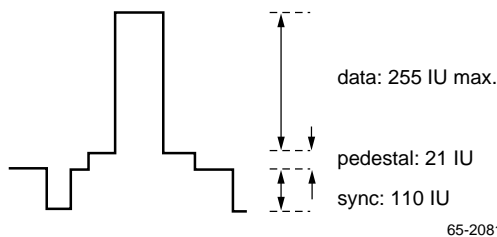
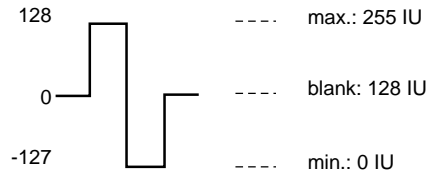

Figure 2. GBR/Y DAC Output Levels in Current Units
Figure 3. C_BC_R DAC Output Levels in Current Units
Nominal outputs (see Figure 2 and Figure 3) are expressed in Current Units (IU) where 1 IU is equivalent to the current activated by one unit of D/A input data (Gdata/Ydata, Bdata/C_Rdata, or Rdata/C_Bdata). SETUP = HIGH activates a 21 IU pedestal when $\overline{\text{BLANK}} = \text{H}$. $\overline{\text{SYNC}} = \text{LOW}$ disables a 110 IU sync pulse. SETUP is programmed through Register 7 bit 2.